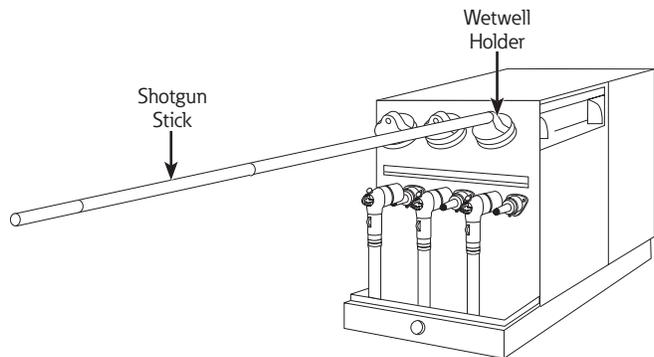

Figure 10. Guide fuse assembly into wetwell holder.
- Center guide fingers of cap into wetwell until contact resistance is felt (Refer to Figure 10). Push fuse assembly into wetwell until cap seats.